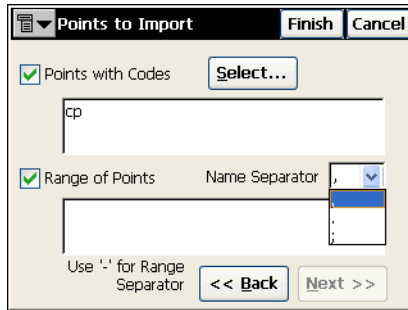

Figure 5-4. Points to Import
- If *By Range and Code* selected in the *Points* drop-down menu, the *Points to Import* screen displays. On this screen, select the codes and/or the range of points to be imported (Figure 5-4 on page 5-3). To select codes, tap the **Select** button, check the codes associated with the points to be